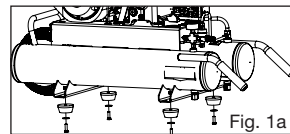

Fig. 1a
3. Attach vibration pads to compressor as shown in Fig. 1a.